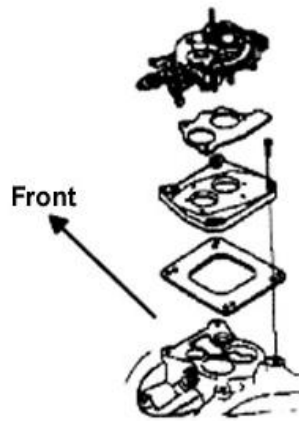

Figure 1B—SB Chevrolet
8.1.2 Installing Throttle Body on Universal & Spread Bore Manifolds (see Fig. 1B & 1C)